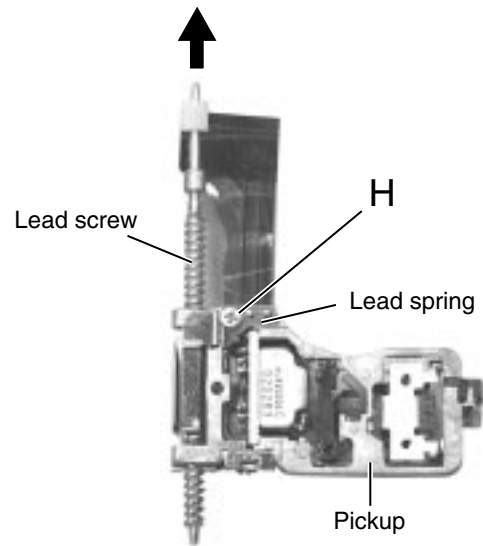

Fig.10
■ Removing the pickup(See Fig.10 and 11)